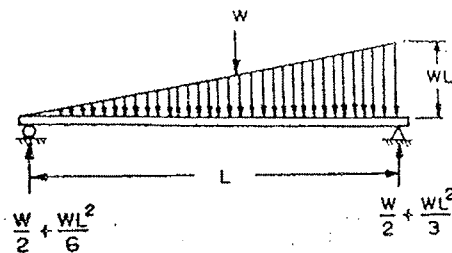

Fig. 1
Q. 2 Figure 1 shows simply supported beam of span L with rectangular load, starting from zero at one end and increasing to  $wL$  at another end. Find central deflection.